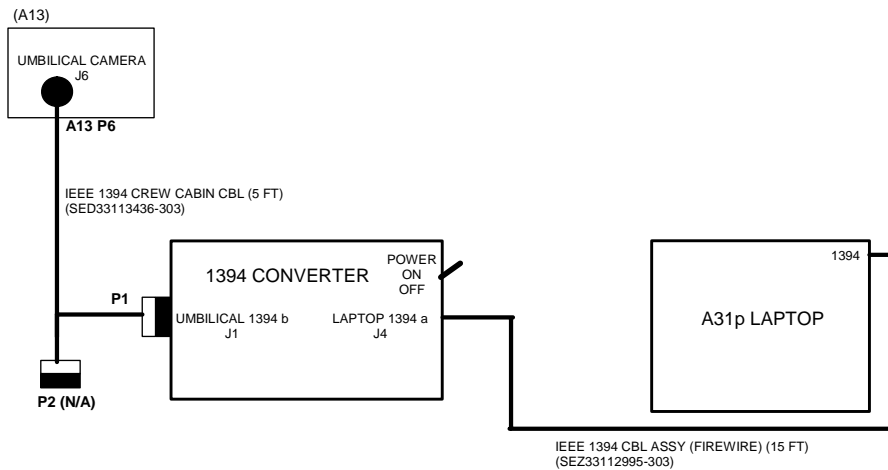

Figure 12-9.- Hardware configuration.
4. Configure hardware per figure 12-9 below making